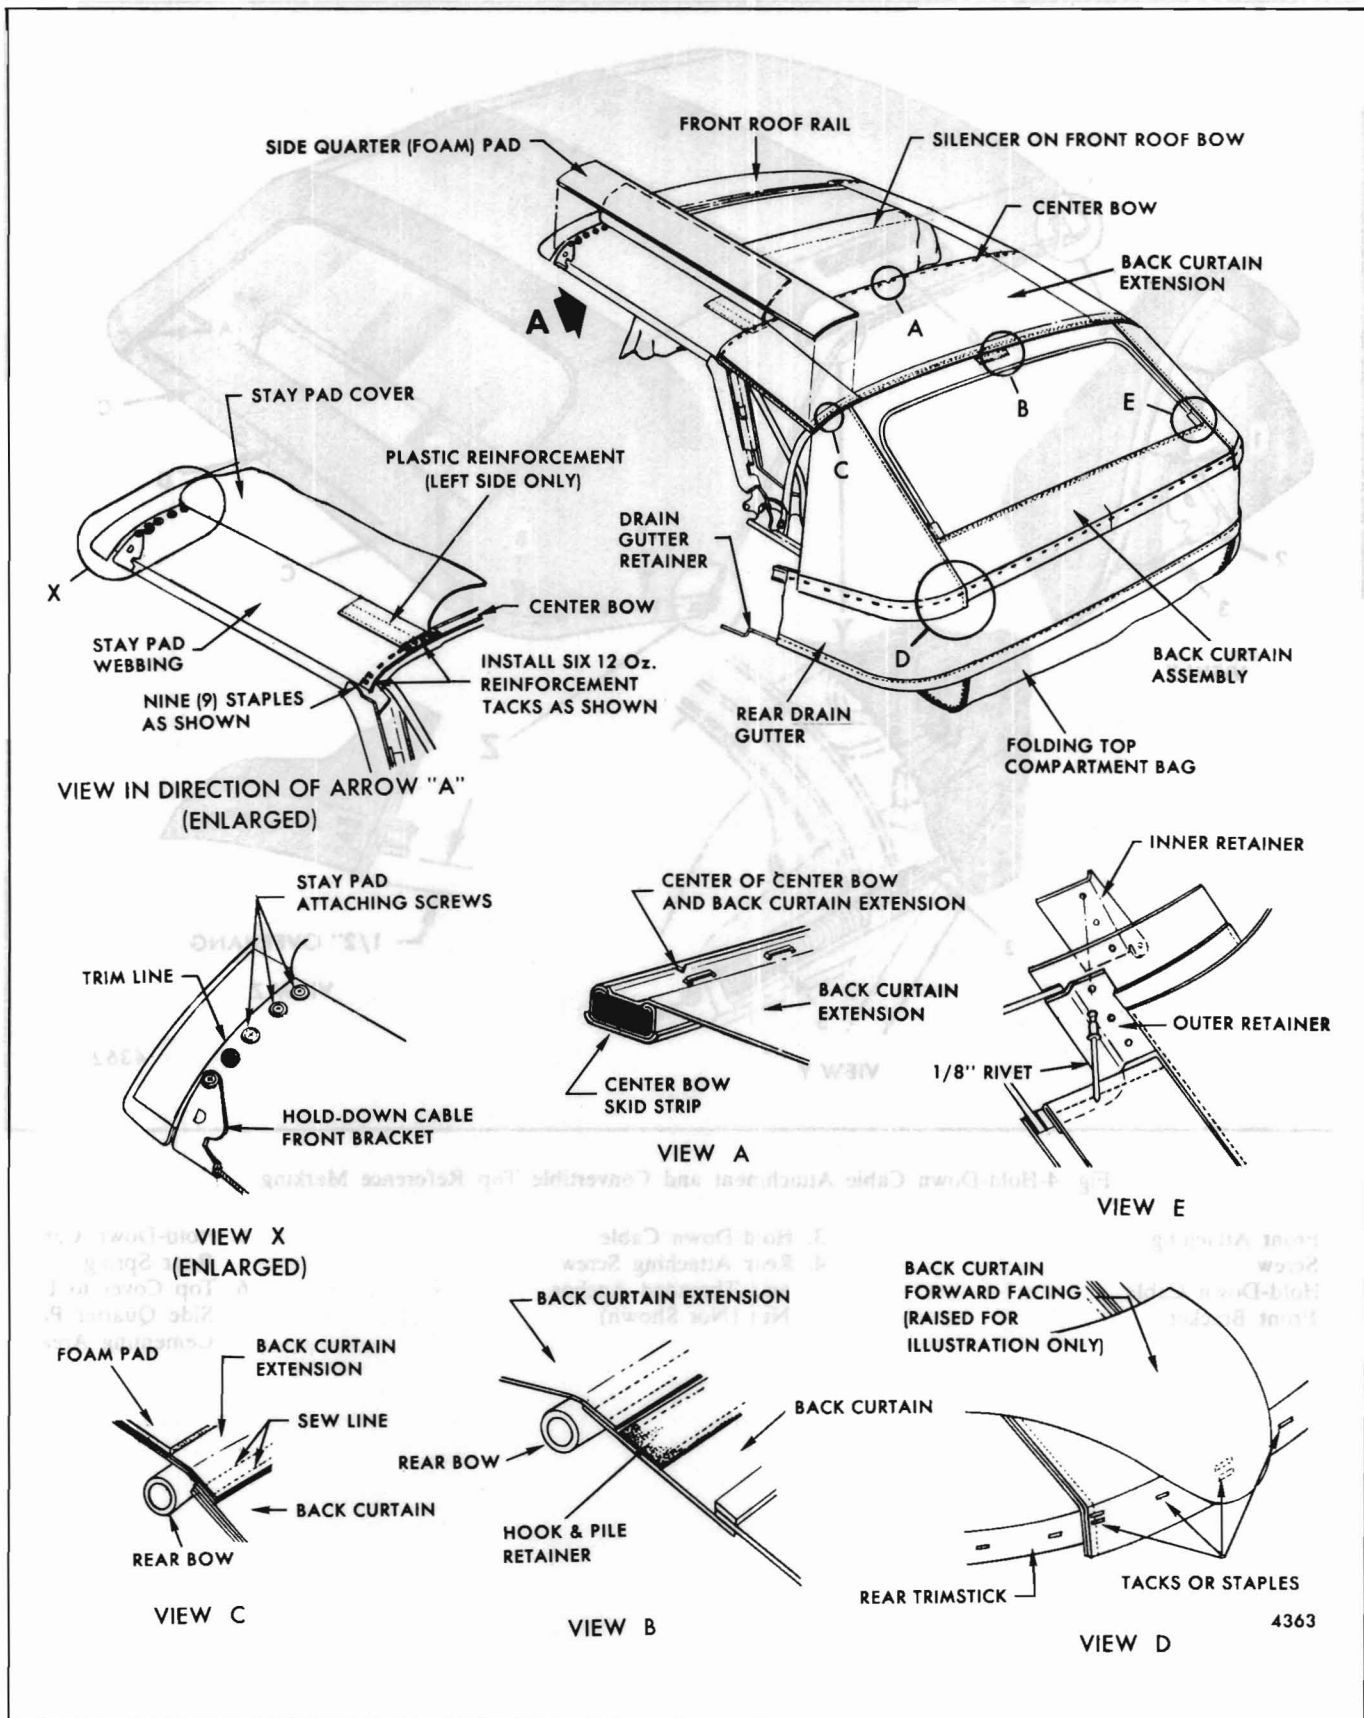

Fig. 5-Back Curtain Assembly Attachment and Reference Marking
A. Detach side quarter foam pad from back curtain extension up to center bow (Fig. 5). If pad(s) are damaged during removal, they should be replaced with equivalent soft, foam rubber material. Use sharp blade, like razor, with care and cut cemented bond while gently lifting foam pad.
C. Detach back curtain from rear trimstick. Note how folded material is secured below back window sides (Fig. 5).
- A. Position center of new back curtain extension on center of center bow. Front edge of extension should be flush with front rib of center bow. Staple or tack extension to center bow. Start at center, keep trim material flat, and space tacks or staples about two (2) inches apart (Fig. 5).
- D. Fold back each side of curtain, shown in View "D", Figure 5, and install three staples or tacks at this location.
- E. Space staples or tacks about two inches apart (about 40 tacks or staples). Avoid excessive stretching of material (Fig. 5).
4. Cement original or replacement side quarter (foam) pad (Fig. 5) between center bow and rear bow on each side. If pad(s) from center to rear bow were damaged upon removal, replace them with equivalent foam rubber material.